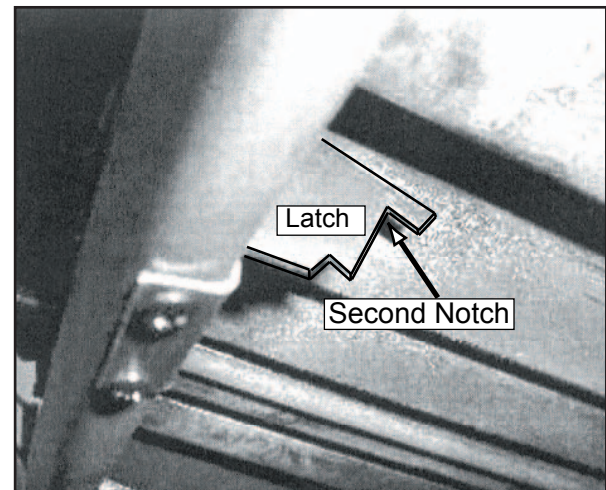

Figure 32.3
- d. To re-install the top baffle, align the hooks on the baffle with the slots in the baffle hangers, push up and slide back. **Figure 32.3.**